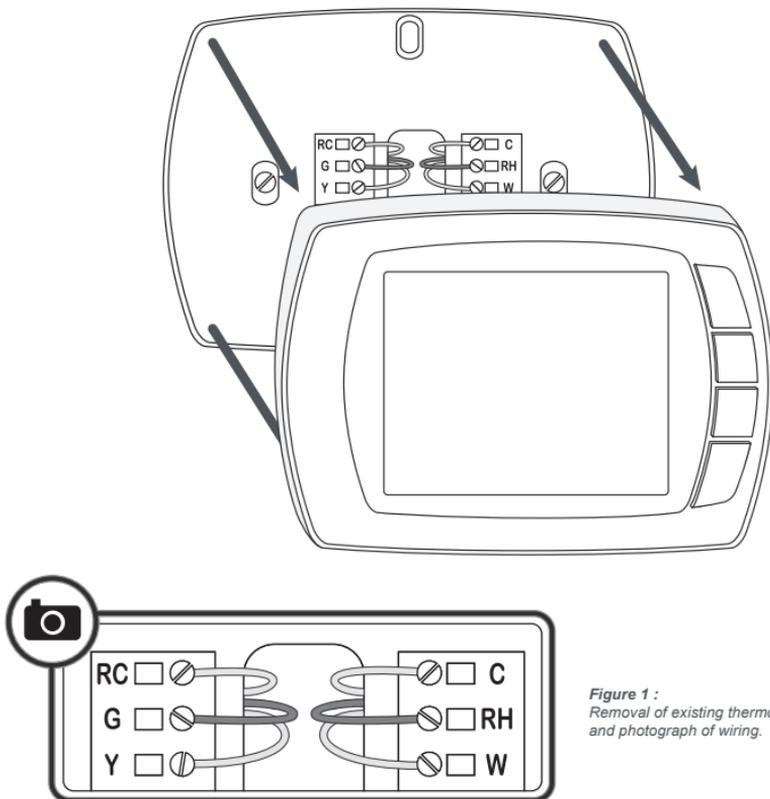

Figure 1 :
3. Take a picture of the wiring of the terminal connections. If necessary label the wires to prevent confusion (Fig. 1).